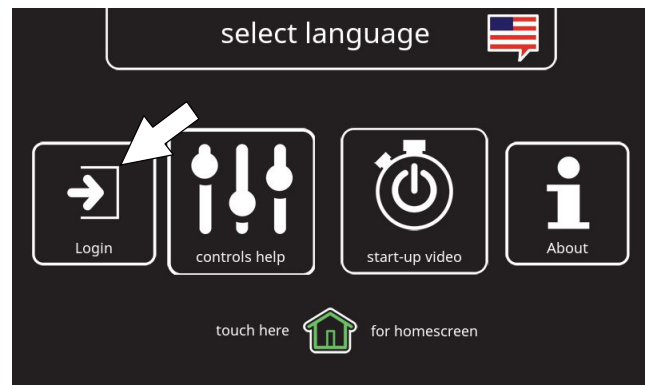

FIG. 147
2. Press the login button (Figure 147).